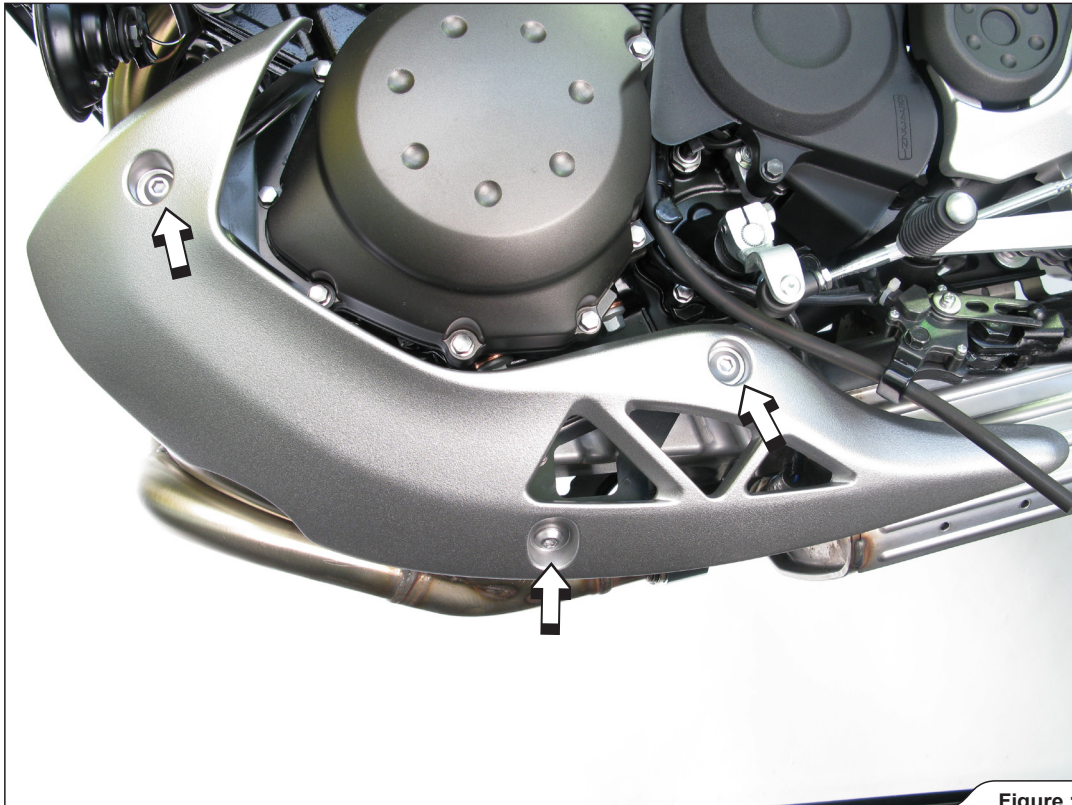

Figure 1
2. For ER-6 Versys: Unscrew the marked bolts on both sides of the motorcycle and remove the lower part of the cowling (Figure 1).